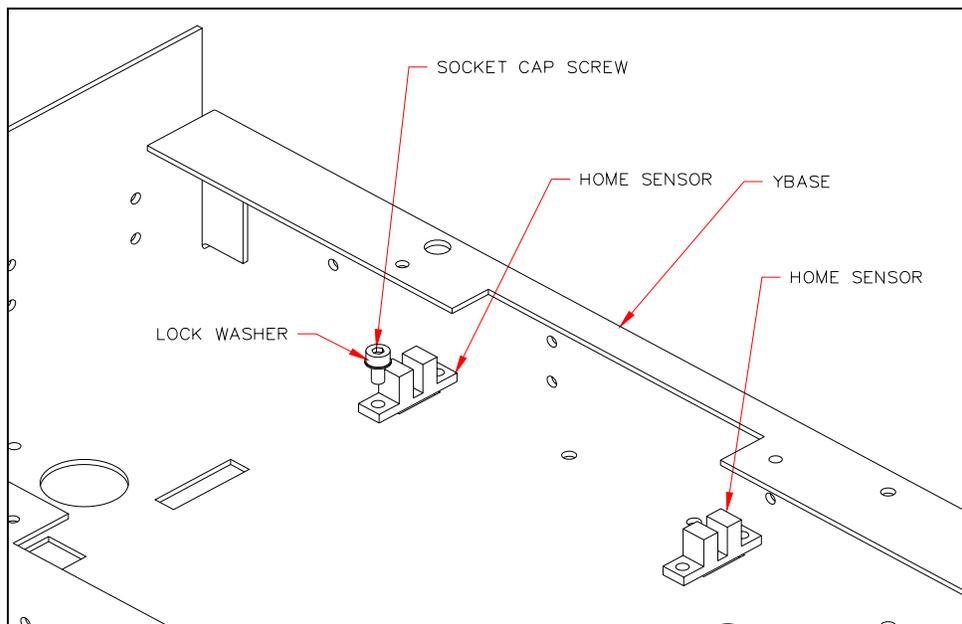

Figure 11-33 Plate Home Sensors
- 1 The Plate Home Sensor (Figure 11-33) is removed by unscrewing the two M3 x 6mm socket cap screws and two M3 lock washers.